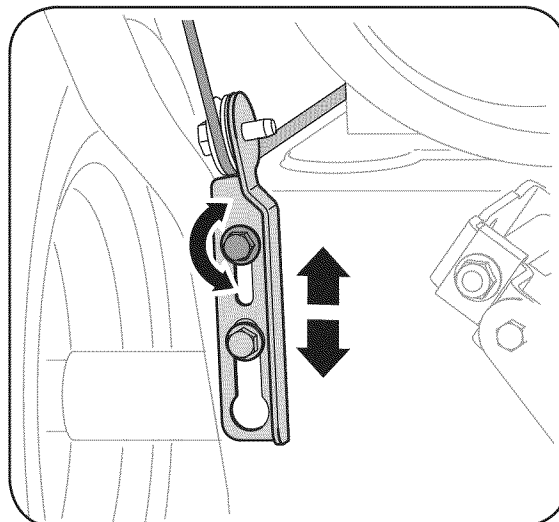

Figure 12
- Allow the auger to remain engaged for approximately ten (10) seconds before releasing the auger control. Repeat this several times.
- Position the bracket upward to provide more slack (or downward to increase cable tension). See Figure 12.